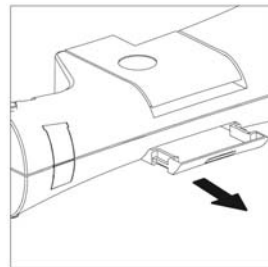

Fig. 10
- 3 When the process is completed, remove the clippings tray and empty it (Fig. 10).